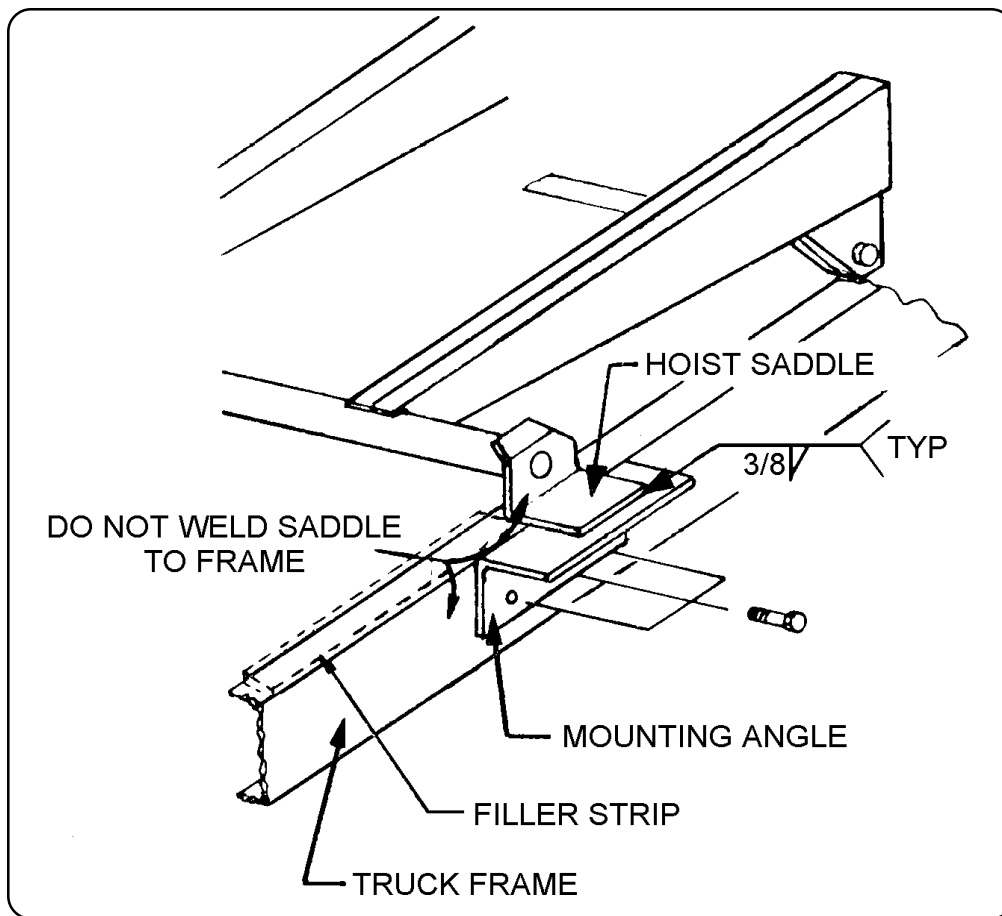

Figure 4 - Mounting Angle Assembly
E. After the hoist is positioned, place the mounting angles (Figure 4) under each side of the hoist saddle and against the truck frame. Clamp securely in place. Drill through the frame ($17/32$ ") and install the mounting angle with three (3) $1/2$ " x $1-1/2$ " Grade 8 hex head cap screws, lock washers, and hex nuts (both sides).
F. Weld each end of the hoist saddle to its mounting angle as shown in Figure 4. Note the welding symbols. Do not weld to the truck frame.
- I. Position and secure the filler strips (liner or sleeper) to the truck frame (Figure 4).